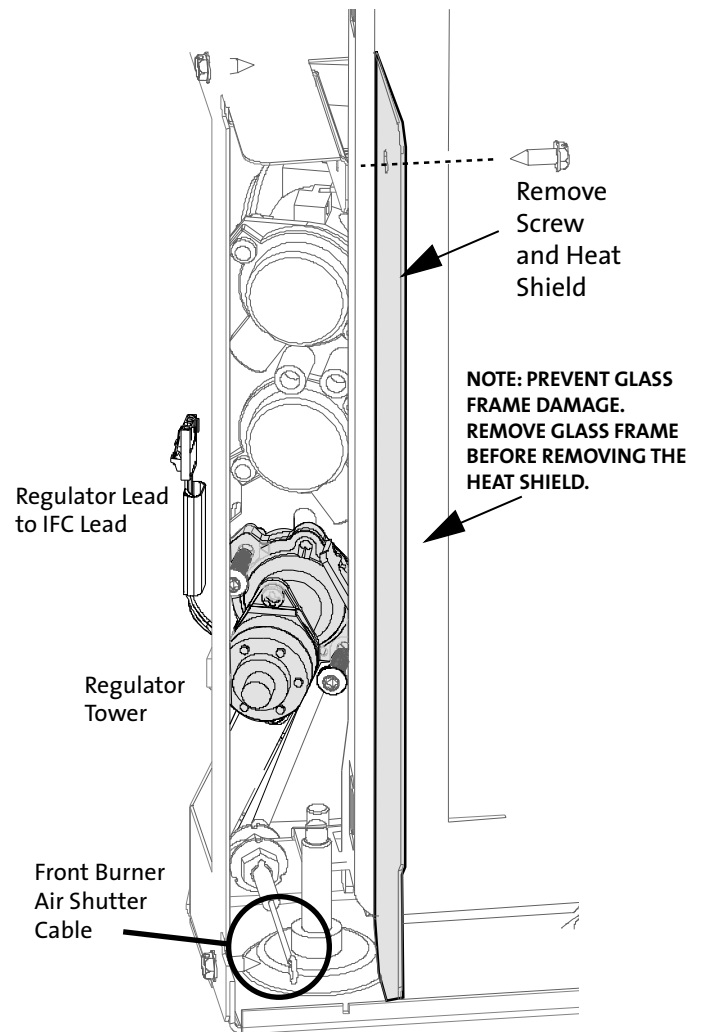

Figure 7.8. Replace the Regulator Tower.
8. **CHANGE THE VARIABLE REGULATOR TOWER** on the gas control valve. See fig. 7.8.